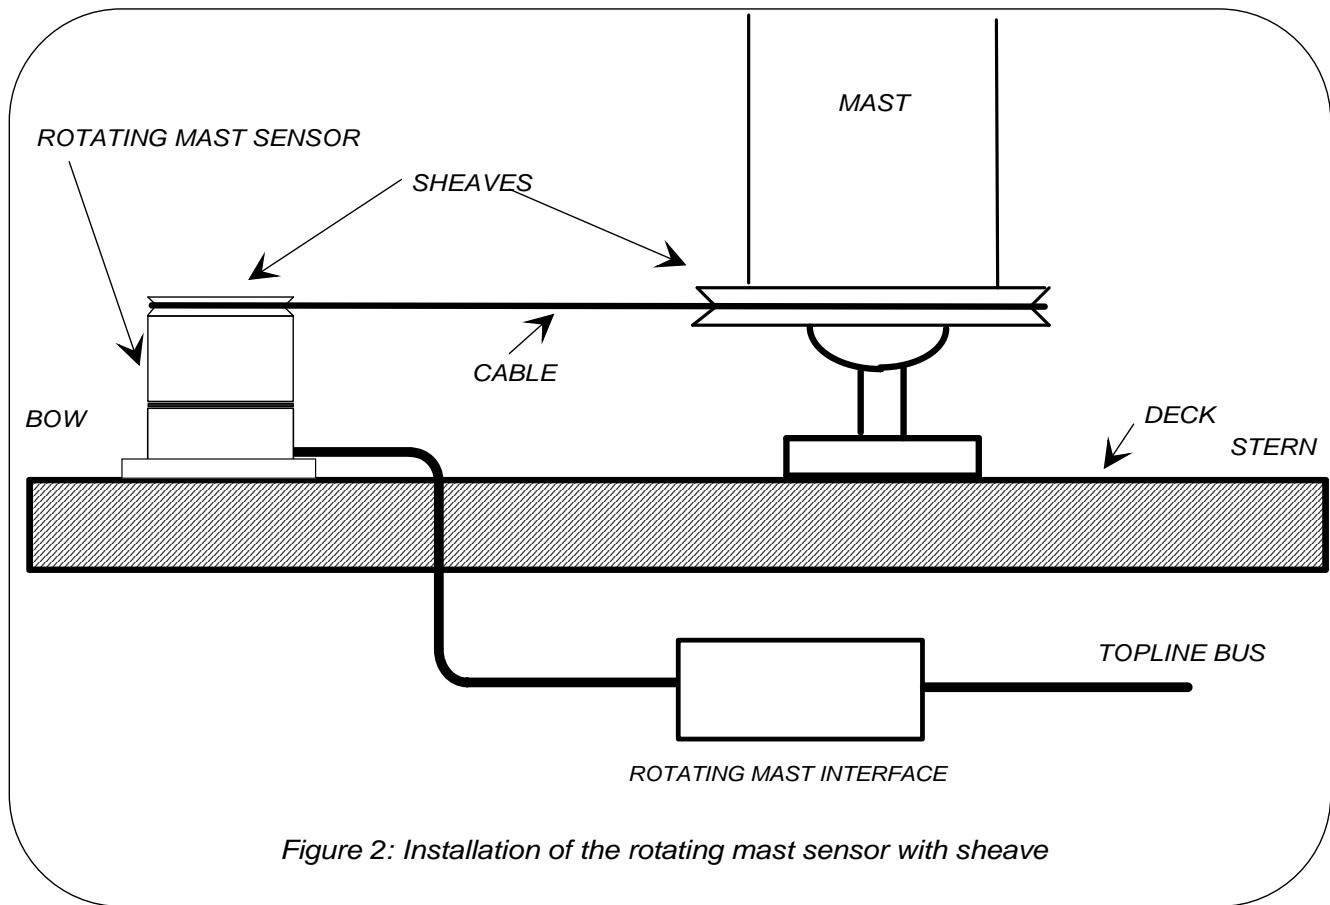
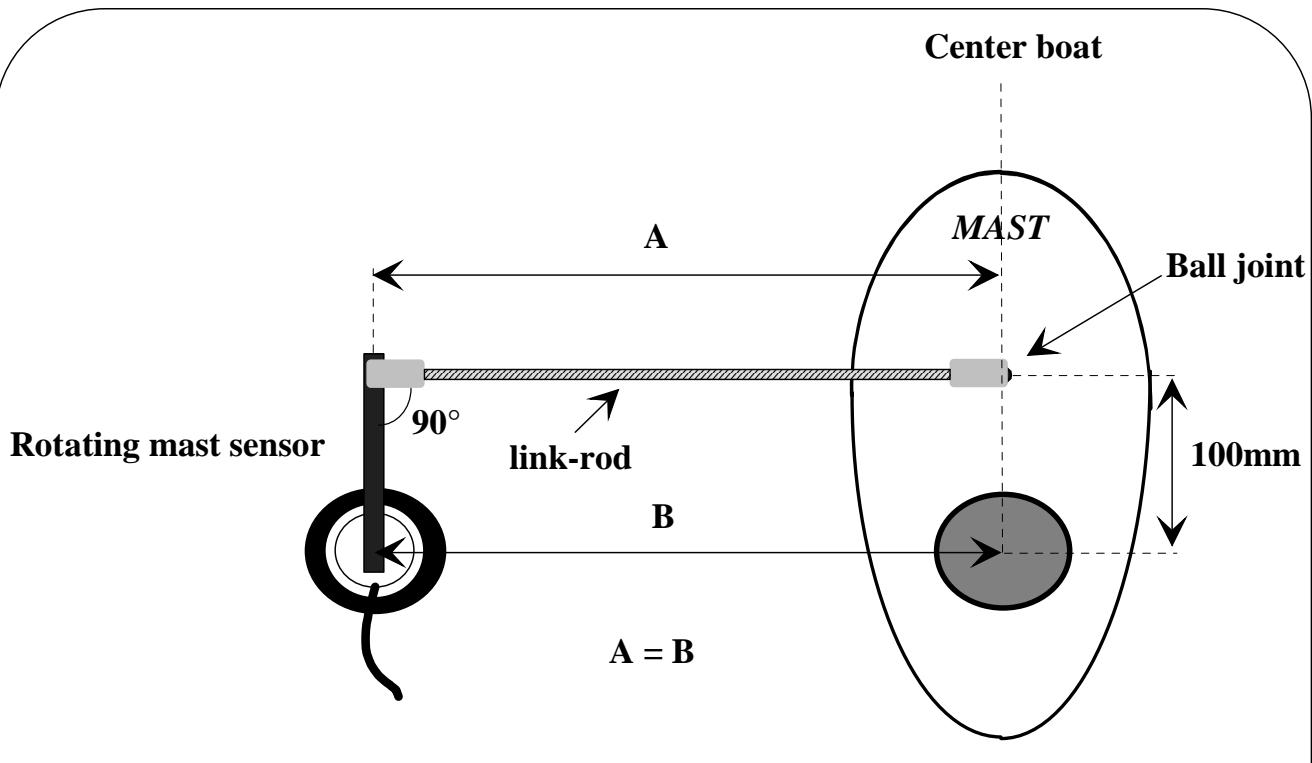

Figure 2: Installation of the rotating mast sensor with sheave
Figure 3: Installation of rotating mast sensor with the rudder arm
The « mast rotation sensor » can be mounted either with the sheave (see figure 2) or with the rudder arm supplied (see figure 3).
- The mast rotation sensor must be positioned on the deck as shown in Figure 2. Securely fasten, with four screws ($\varnothing 4\text{mm}$)
- Place the sensor as shown in Figure 3. Securely fasten with four screws ($\varnothing 4\text{mm}$). Measure **A**.